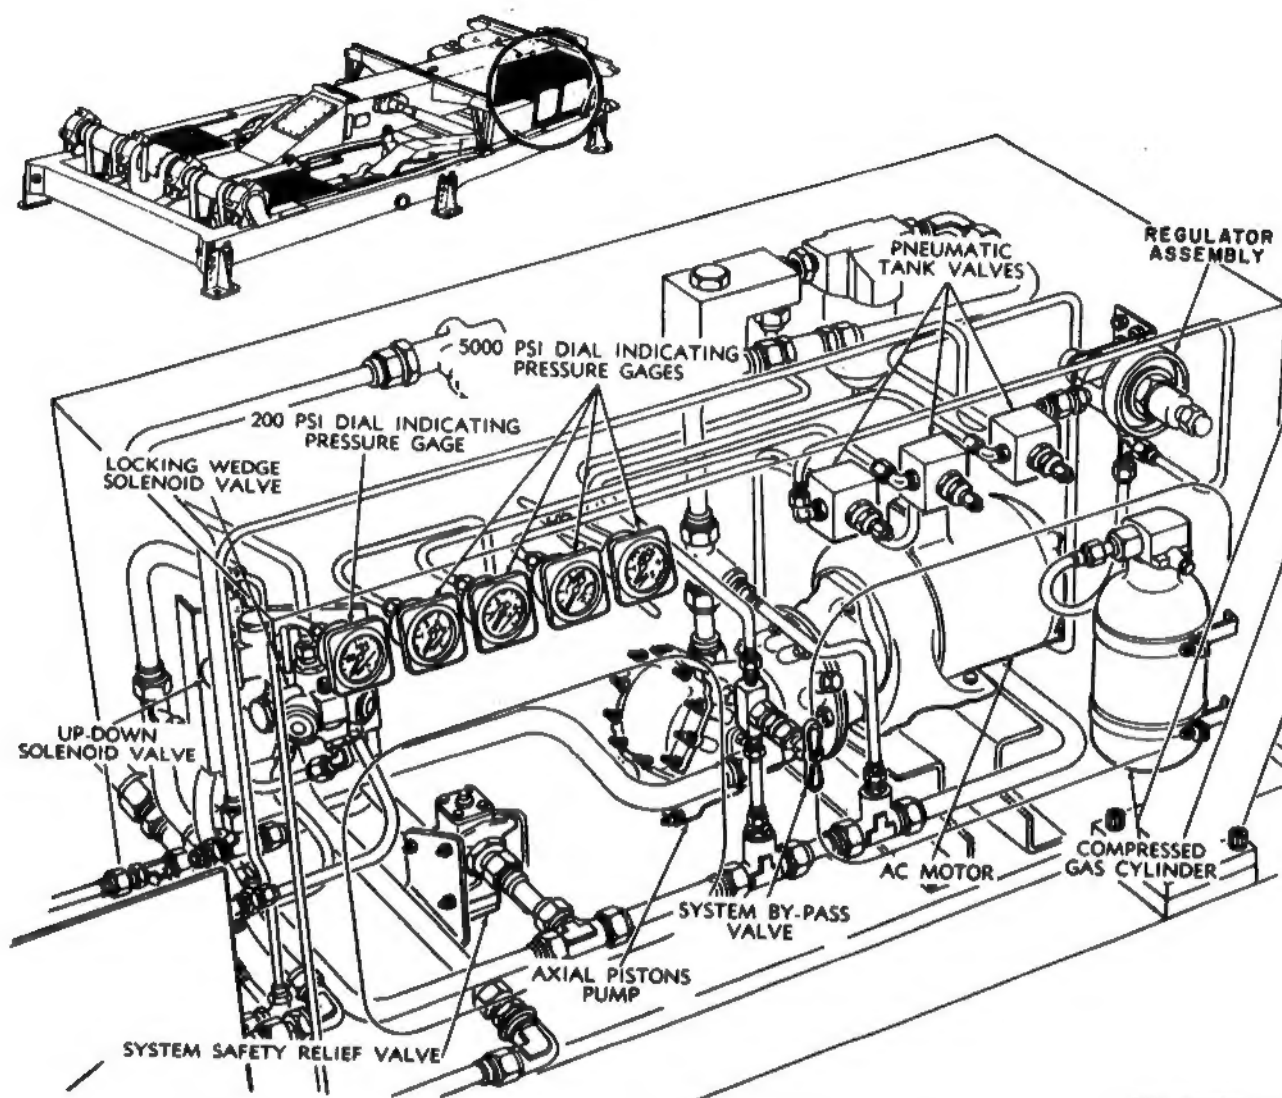
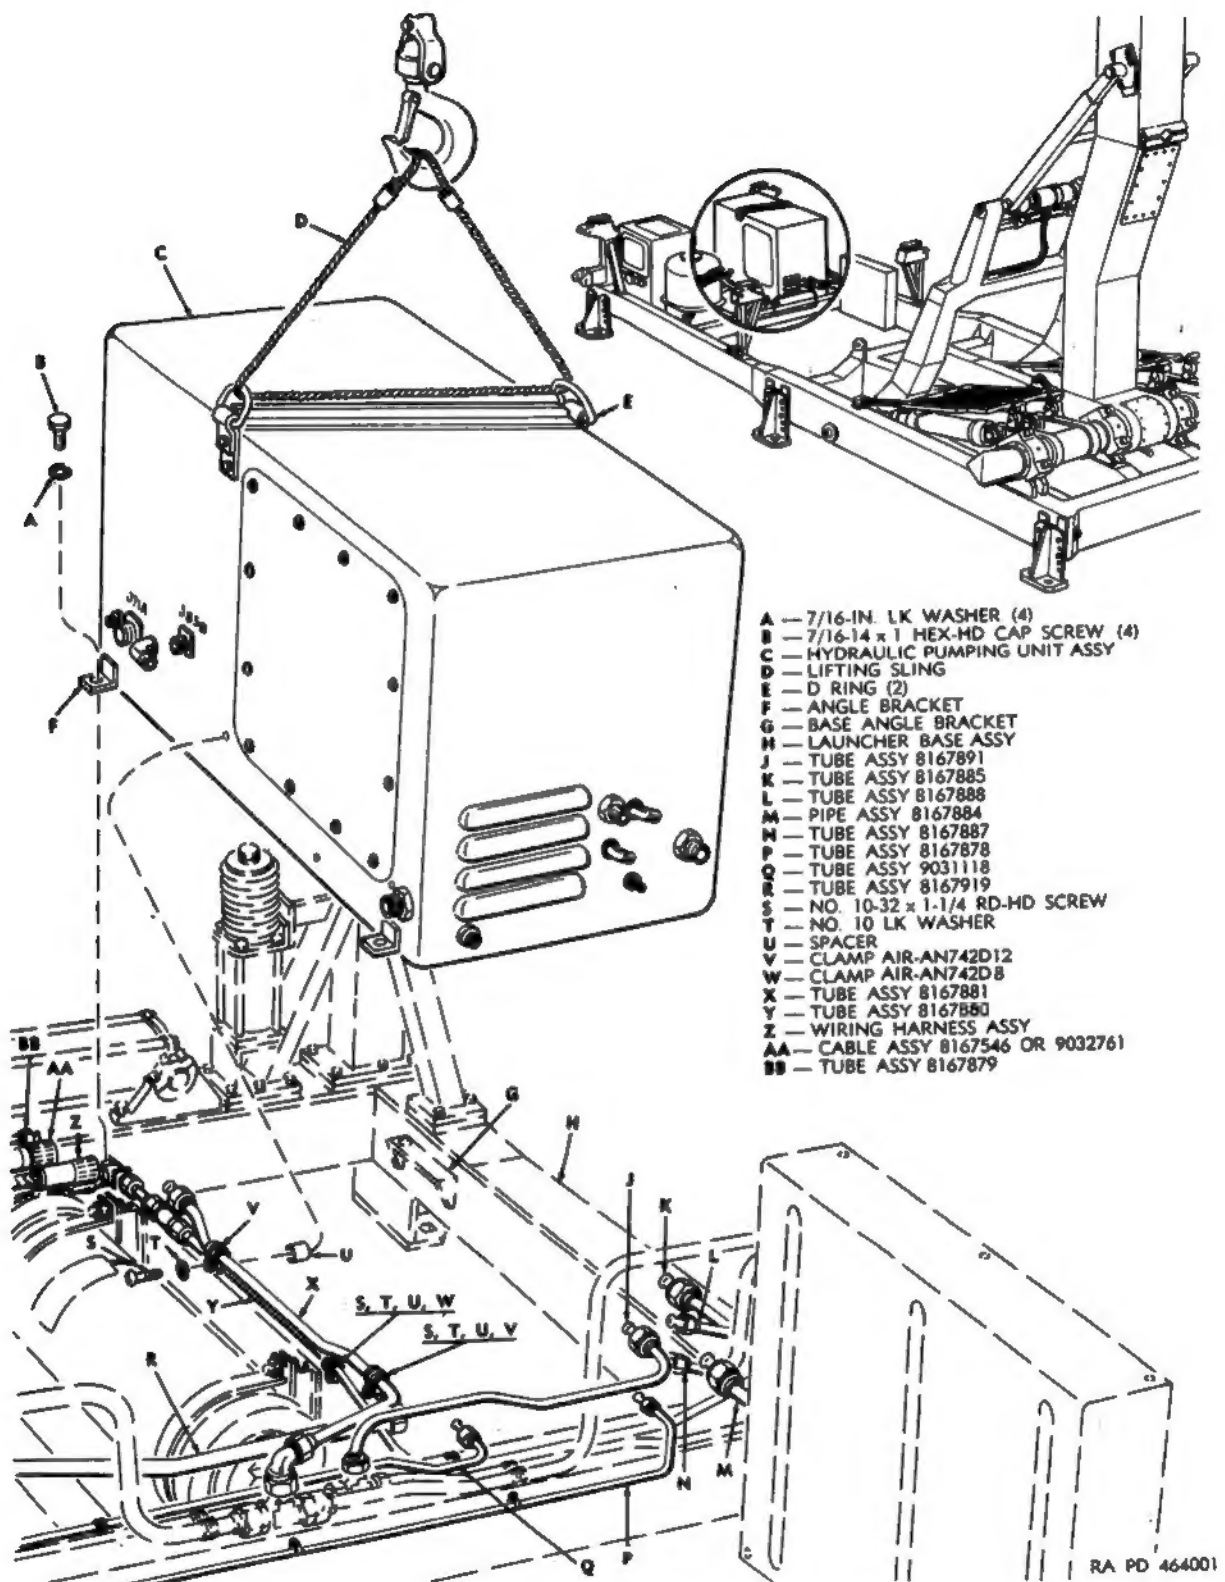

Figure 120. Hydraulic pumping unit—front view—location of major components.
Figure 122. Hydraulic pumping unit assembly — removal and installation.
The hydraulic pumping unit (fig. 3) is located on the right side of the launcher base. Major components of the pumping unit are shown on figures 120 and 121. Maintenance of the pumping unit consists of replacement of the hydraulic pumping unit assembly (C, fig. 122) and maintenance of individual components of the pumping unit assembly.
*Note.* The key letters shown in parentheses in a below refer to figure 122.